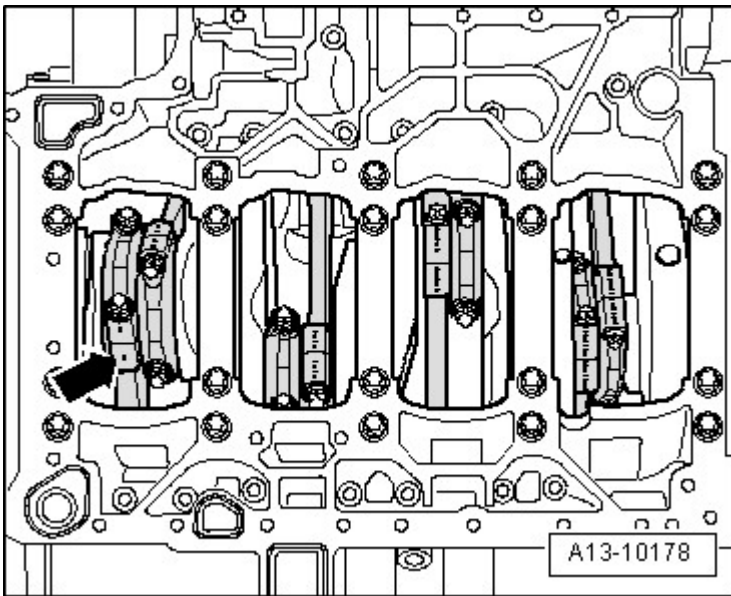

Fig. 20: Identifying Mark On Connecting Rod
- Mark affiliation to cylinder with paint, refer to **Fig. 20**